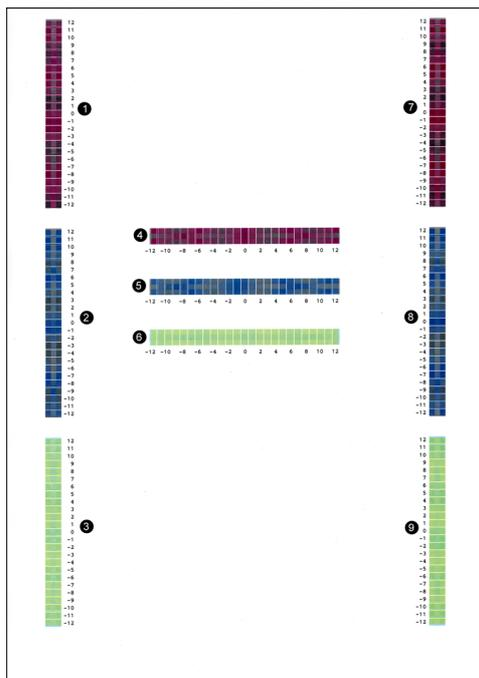

Fig. 5-15
- (2) Press the **OK** key. "REGISTRATION" is displayed on the LCD.
- (3) Press the **▲** or **▼** key to display "PRINT CHART" on the LCD.
- (4) Press the **OK** key. "PRINTING" is displayed on the LCD, and printing of misregistration correction chart (refer to fig. 5-15 \(P5-41\)) is printed. When printing is finished, "PRINT CHART" is displayed on the LCD.
- (5) Press the **Cancel** key to return the machine to the initial state of the maintenance mode.
- (3) Press the **▲** or **▼** key to display "SET REGISTRATION" on the LCD.
- (4) Press the **OK** key. "1. MAGENTA=0" is displayed on the LCD.
Using the printed misregistration correction chart, identify the numeric value whose color is the darkest in the pattern of (1) (Magenta Left) shown in fig. 5-15 \(P5-41\).